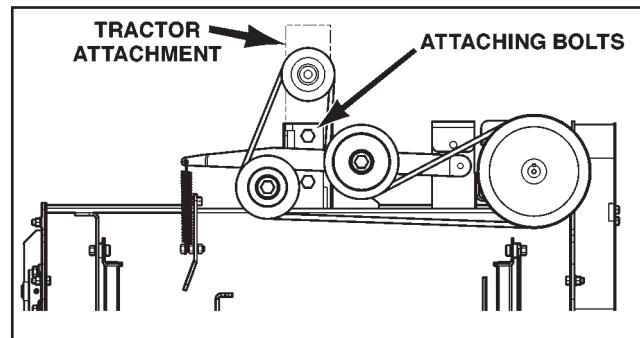

FIGURE 28 Attaching Bolts Preseeder to Tractor
4. Remove 2(two) 1/2 inch attaching bolts (See Figure 28).